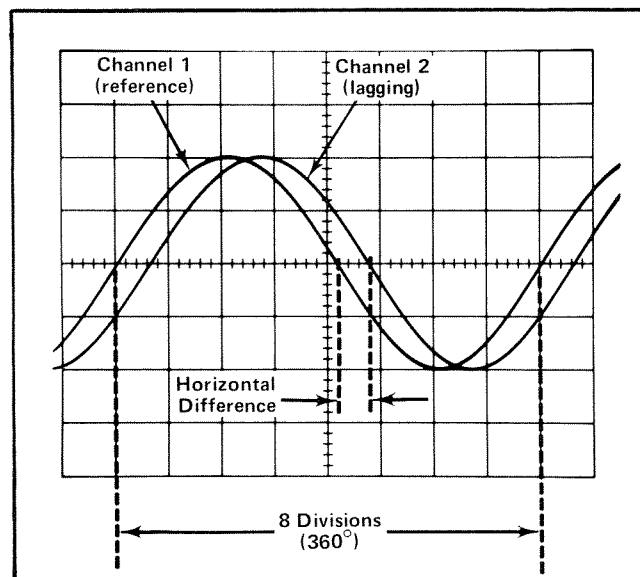
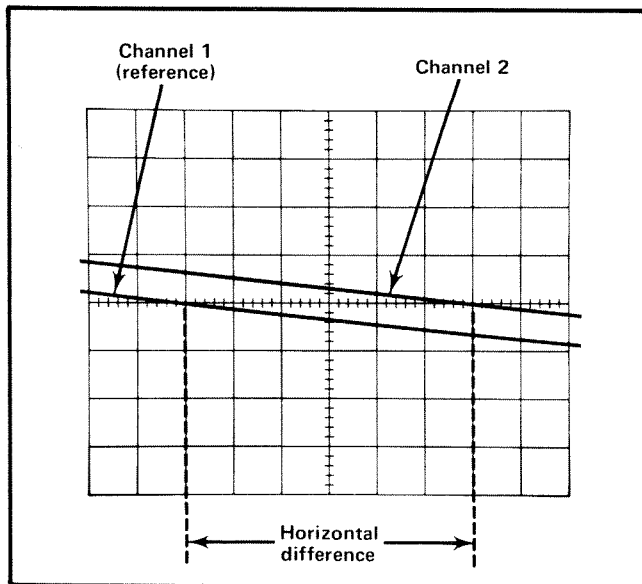

Fig. 2-4. Measuring phase difference between two signals.
Fig. 2-5. High resolution phase measurement using sweep magnifier.
8. Adjust the time-base Variable Sweep Rate until one cycle of the reference signal occupies exactly eight horizontal divisions between the second and tenth vertical lines of the graticule (see Fig. 2-4). Each division of the graticule represents 45° of the cycle ($360^\circ \div 8 \text{ divisions} = 45^\circ/\text{division}$). The sweep rate can now be stated in terms of degrees as $45^\circ/\text{division}$.
EXAMPLE: Assume a horizontal difference of 0.3 division with a sweep rate of $45^\circ/\text{division}$ as shown in Fig. 2-4. Using the formula:
EXAMPLE: If the sweep rate is increased 10 times by the Magnifier, the magnified sweep rate is $45^\circ/\text{division} \div 10 = 4.5^\circ/\text{division}$. Fig. 2-5 shows the same signals as used in Fig. 2-4 but with the Magnifier set to X10. With a horizontal difference of 3 divisions, the phase difference is: